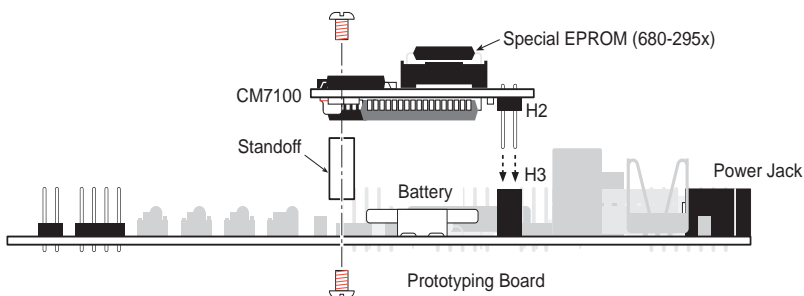

Figure 2-2. Connecting CM7100 to Prototyping Board
3. Plug the CM7100 into the Prototyping Board as shown in Figure 2-2. Plug header H2 of the CM7100 into connector H3 of the Prototyping Board. Pins 1 of the header and connector must match. The CM7100 will hang over the battery on the Prototyping Board. For maximum stability, install the supplied standoff between the CM7100 and the Prototyping Board.